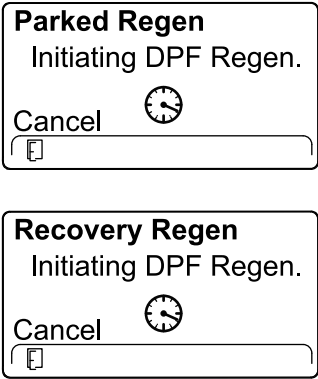

Figure 30
5. The InfoCenter displays the INITIATING DPF REGEN message (Figure 30).